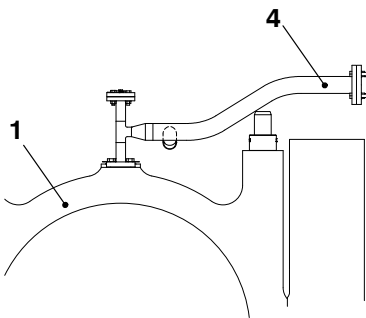

Fig. 10
2) Remove the oil pipe (4, Fig. 10) from the main bearing cover (1).